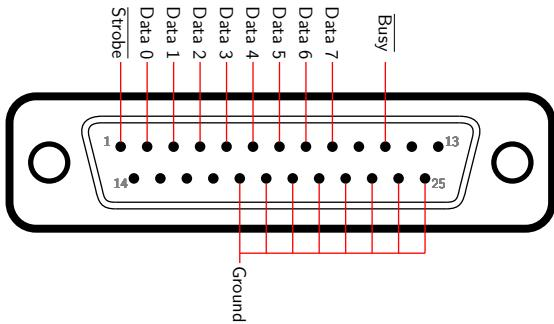

Figure 3.4: DB-25 female connector (solder side).
1. Solder the pins of a female DB-25 connector as shown in Figure 3.4. Note that the pin numbers shown in the diagram are for the solder side of the connector.